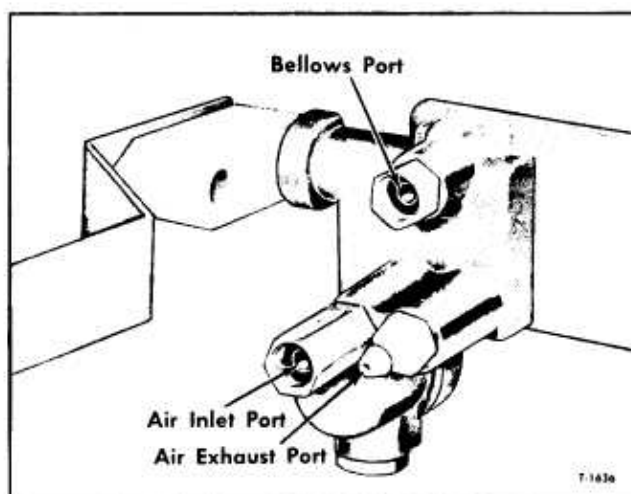

Figure 30—Height Control Valve Port Identification
6. If vacuum source is available, attach supply hose to valve exhaust port (figure 30) using Sun
7. Attach air pressure supply hose to air inlet port (figure 30). Do not apply pressure at this time.
1. Connect air supply hose (80 to 110 psi) to air inlet port (figure 30).
b. Being careful not to disturb indicator setting, disconnect air supply from the air inlet port and connect it to the bellows port (figure 30).
1. Connect air pressure supply hose to valve air inlet port (figure 30).
a. Connect vacuum hose to air exhaust port (figure 30). Adjust vacuum to 15 inches.
b. Connect air pressure supply hose to bellows port (figure 30).